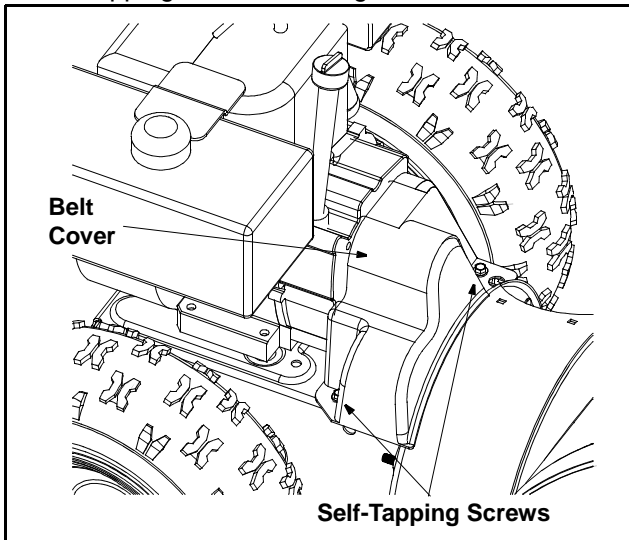

Figure 17
- Remove the plastic belt cover by removing the two self-tapping screws. See Figure 17.